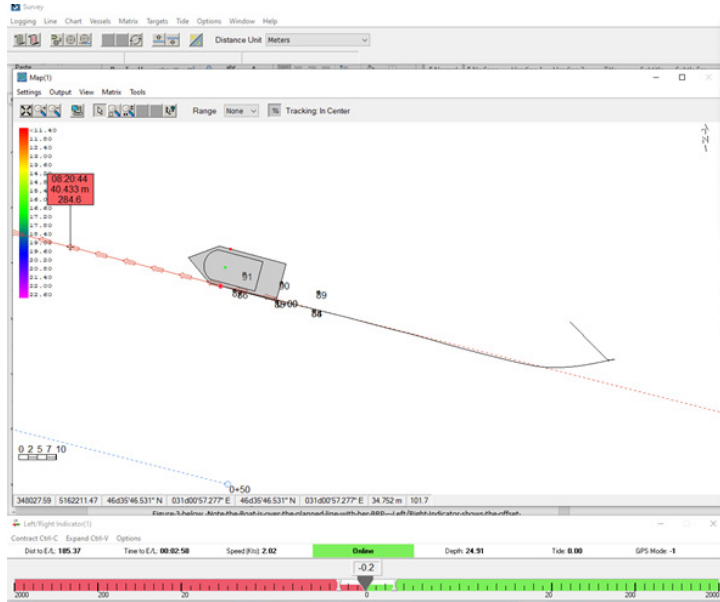

FIGURE 4. Survey Boat with the TRP at the Transducer. Note that the transducer is on the planned line.
Now let's set the Tracking Point at the location of the Transducer as shown on Figure 4 and run the SURVEY.
- Display the track of the boat (see the black line behind the boat on Figure 4)